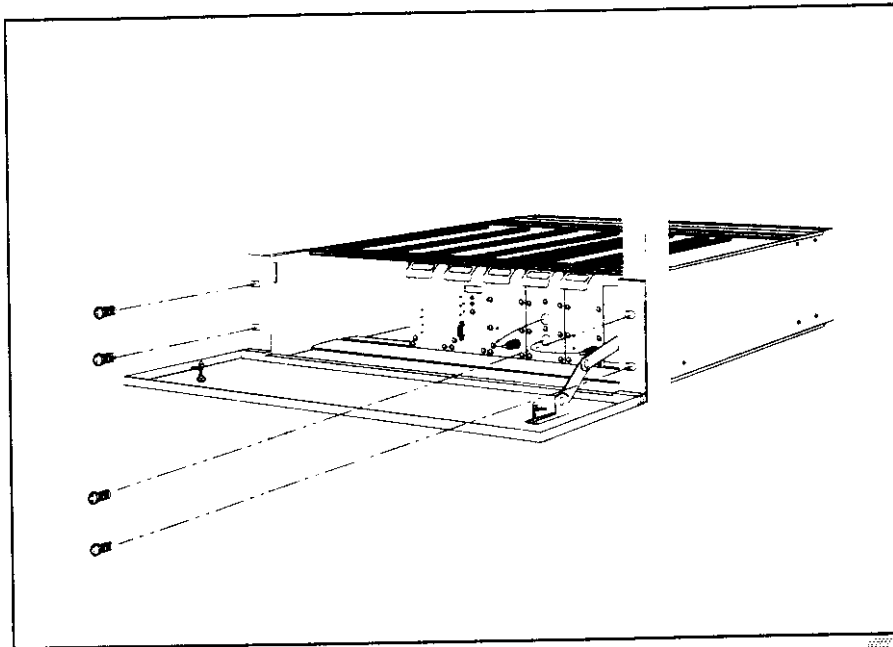

Figure 3.2: Rack Mount Installation
- 1 Slide the terminal, rear end first, into position in the rack, until the lugs on the front of the terminal are against the vertical bars of the rack (see Figure 3.2),